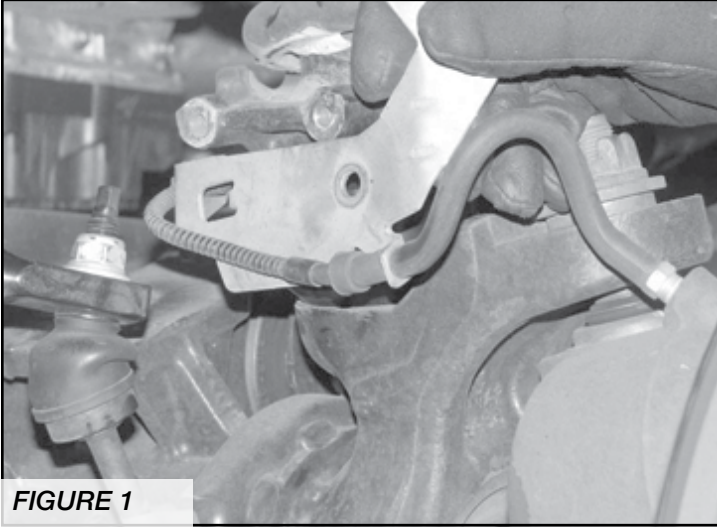

FIGURE 1
2. Remove the brake line and ABS lines from the front side and the rear side of the lower spring perch on the axle and save the hardware. **SEE FIGURE 1**